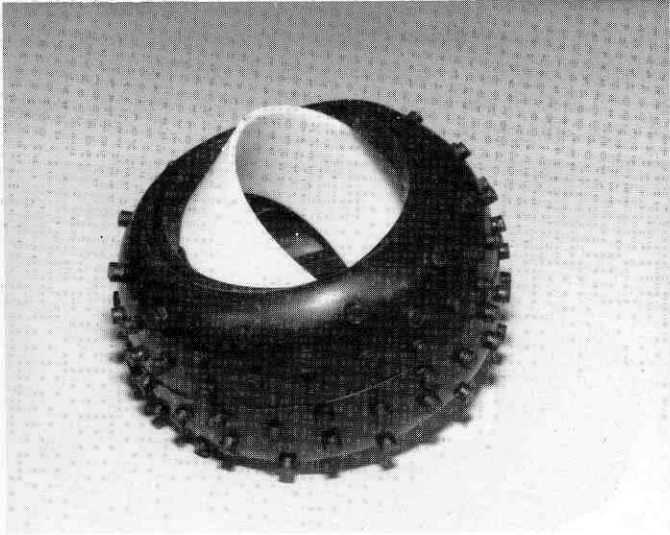

Fig. 153
□ **Fig. 153** From the rear tire bag take the #6822 rear tires and #6804 rear rims. Slide the wide plastic ring inside the tires.